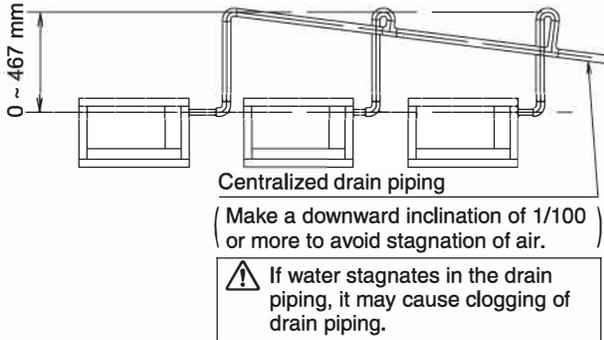

Fig. 14
- To avoid the attached drain hose (2) getting excessive force, do not bend nor twist it. It may cause water leakage.
- In case of centralized drain piping, carry out piping work according to the procedure shown in the following Fig. 14.